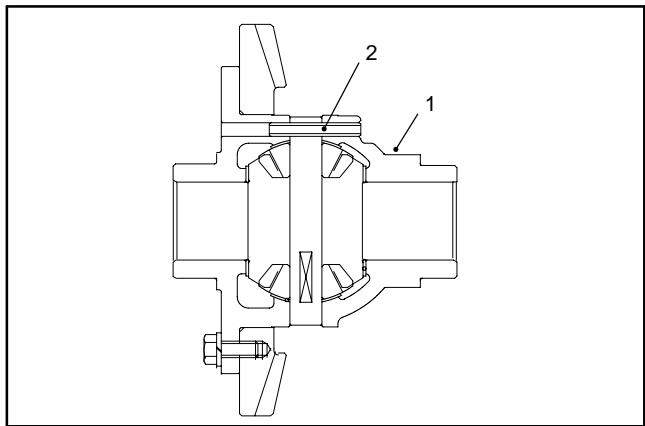

Figure 35
6. Drive the spring pin from the differential case with a punch and hammer. Discard the spring pin (Fig. 35).